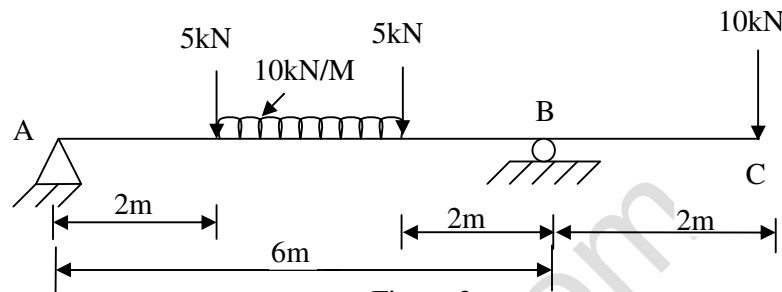

Figure 3
b) Draw S.F.D and B.M.D for the overhanging beam shown in figure 3.